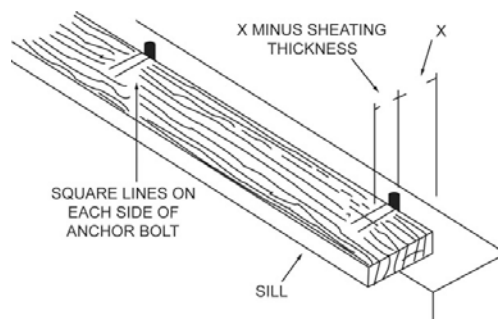

Figure 1-2. Anchor bolt layout.
The recommended way to fasten most wood sills to concrete foundations is with one-half ($\frac{1}{2}$) inch diameter anchor bolts. You can find the anchor bolt length in the project's specifications; the project's drawings will show the spacing and location of the bolts. If this information is not specified in the blueprints, your anchor bolt spacing should *not exceed* 6 feet on center (OC). Also, you must place a bolt within 1 foot of the foundation's outside edge. These are the basic rules for fastening sills (fig. 1-2). The rules vary depending on your base's location (stateside or overseas). For specific guidance, see your supervisor.